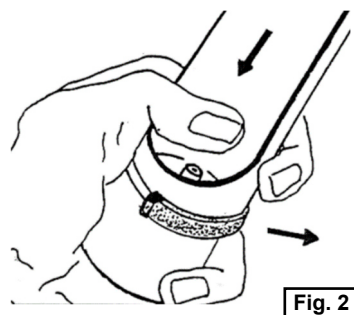

Fig. 2
1. Unscrew the nozzle (11) and carefully remove the black rubber outlet valve (15).
2. Press the valve holder (19) firmly forward and remove the red expanding ring (12) in a lateral direction at the same time (Fig. 2).